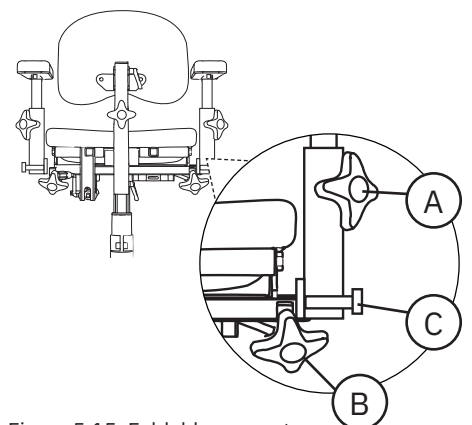

Figure 5.15. Foldable armrests.
Foldable armrests have adjustable in height (A) and width (B) and can be folded backwards (C), see Figure 5.15.